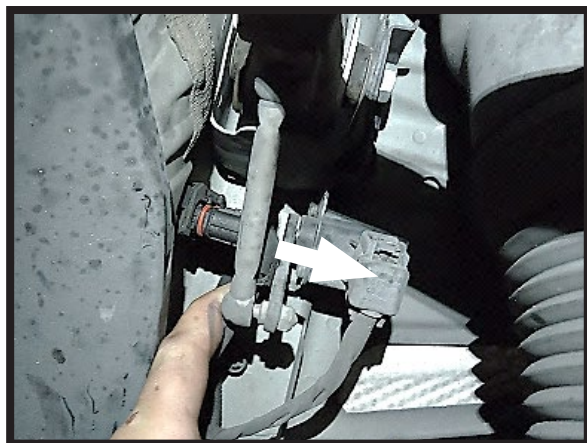

FIGURE 10-6
5. DISCONNECT AND SEPARATE THE TWO (2) ELECTRICAL CONNECTORS. (FIGURES 10-6, 10-7)